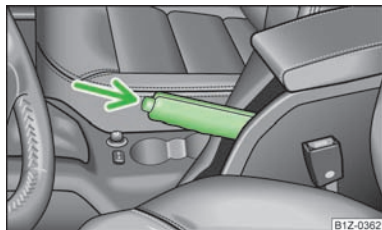

Fig. 95
- » Pull the handbrake lever up slightly and **at the same time** push in the locking button » Fig. 95.